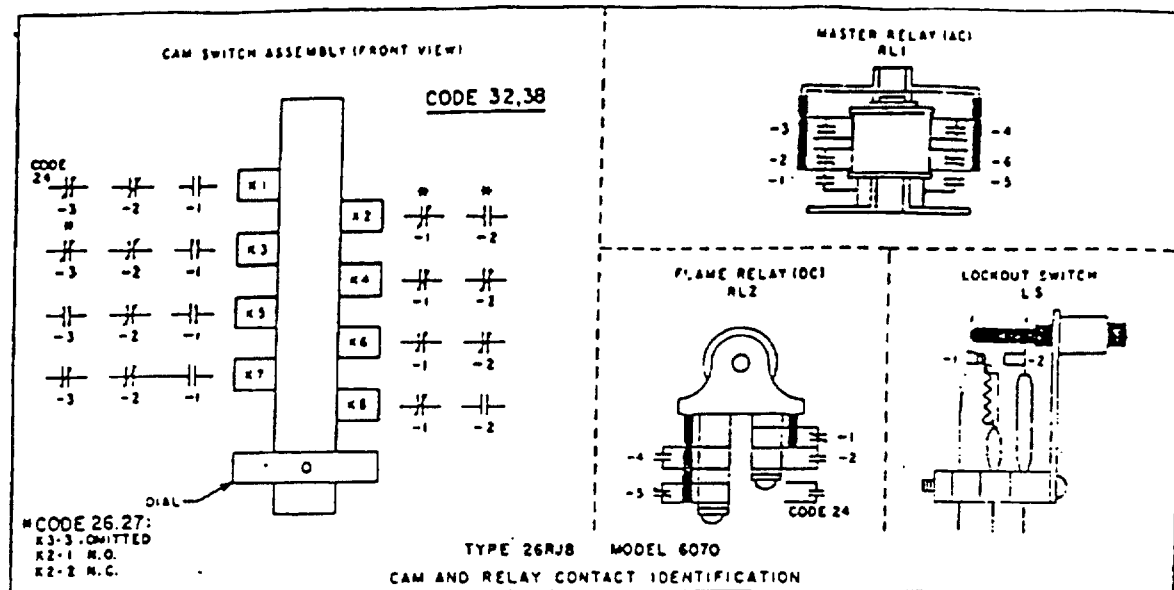

Figure 14
2. Position the scanner sight tube so that scanner line of sight will cross the intersection of pilot flame axis and main flame (Fig. 14). Tack weld the sight tube to the point of entry hole. Should it be necessary to remove refractory to obtain the proper line of sight, prepare a straight hole not less than $\frac{1}{4}$ " I.D. Flare this hole slightly as it enters the combustion chamber.